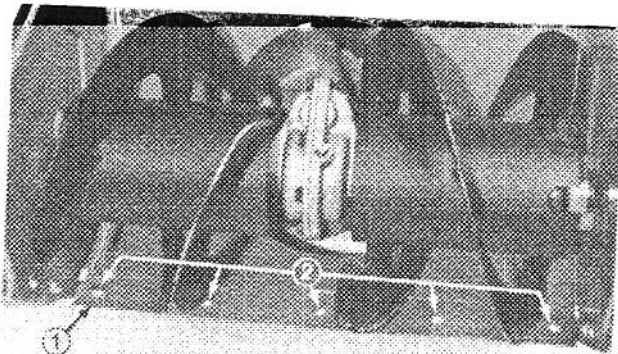

Figure 26
2. Adjust both skids so there is 1/8 of an inch (3 mm) between bottom of auger and level surface. When skids are adjusted correctly, tighten flange nuts. Next, check scraper blade that is mounted at bottom of auger housing (Fig. 26). To adjust scraper, loosen five mounting screws, level scraper, and retighten screws. Scraper must be parallel with level surface.